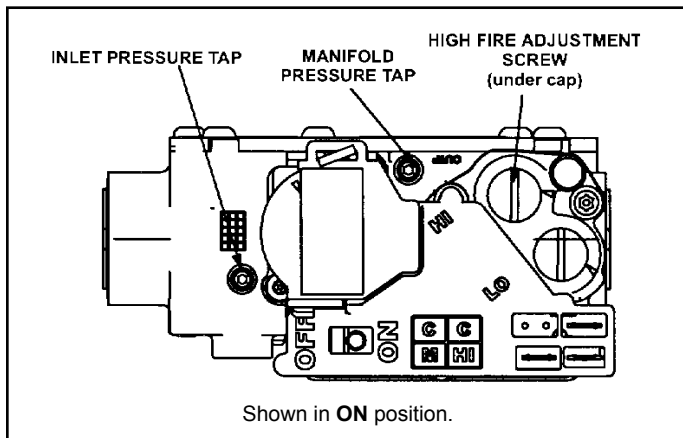
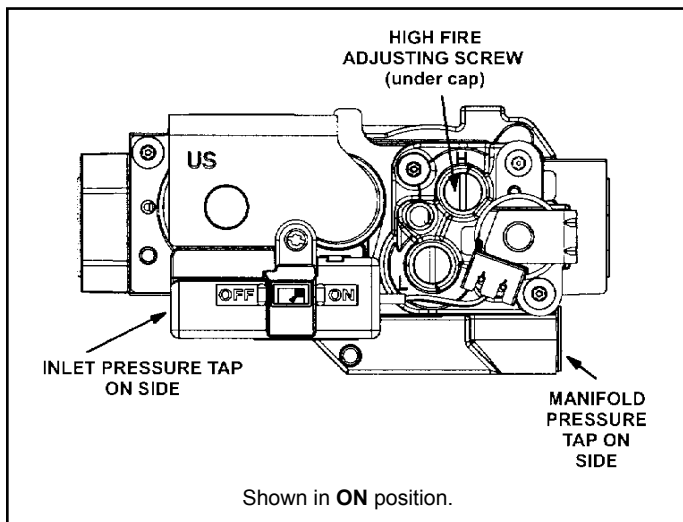

Figure 34. White Rodgers Gas Valve
Figure 35. Honeywell Gas Valve
See Figure 34 and Figure 35
6. Move gas valve switch to OFF position. Do not force. See Figure 34 and Figure 35.
7. Wait five (5) minutes to clear out any gas. If you then smell gas, **STOP!** Immediately call your gas supplier from a neighbor's phone. Follow the gas supplier's instructions. If you do not smell gas go to next step.
8. Move gas valve switch to ON position. Do not force. See Figure 34 and Figure 35.
4. Move gas valve switch to OFF position. Do not force. See Figure 34 and Figure 35.
1. Connect test gauge to manifold pressure tap (Figure 34 and Figure 35) on gas valve.
4. If necessary, make adjustments. Figure 34 and Figure 35 show the location of high fire adjustment screw.